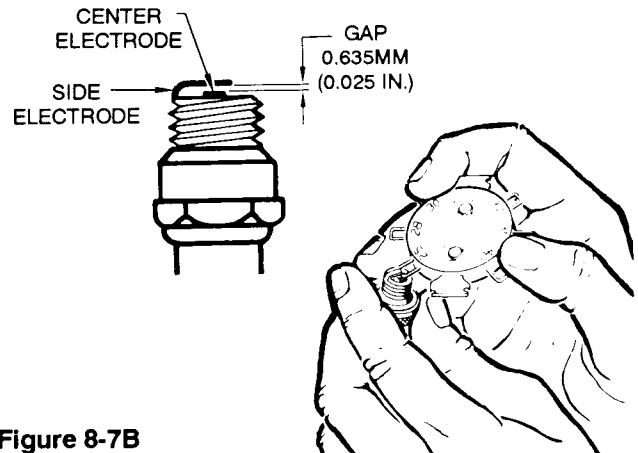

Figure 8-7B
4. Adjust gap to .025 in. Bend side electrode only using a gapping tool. (Figure 8-7B)